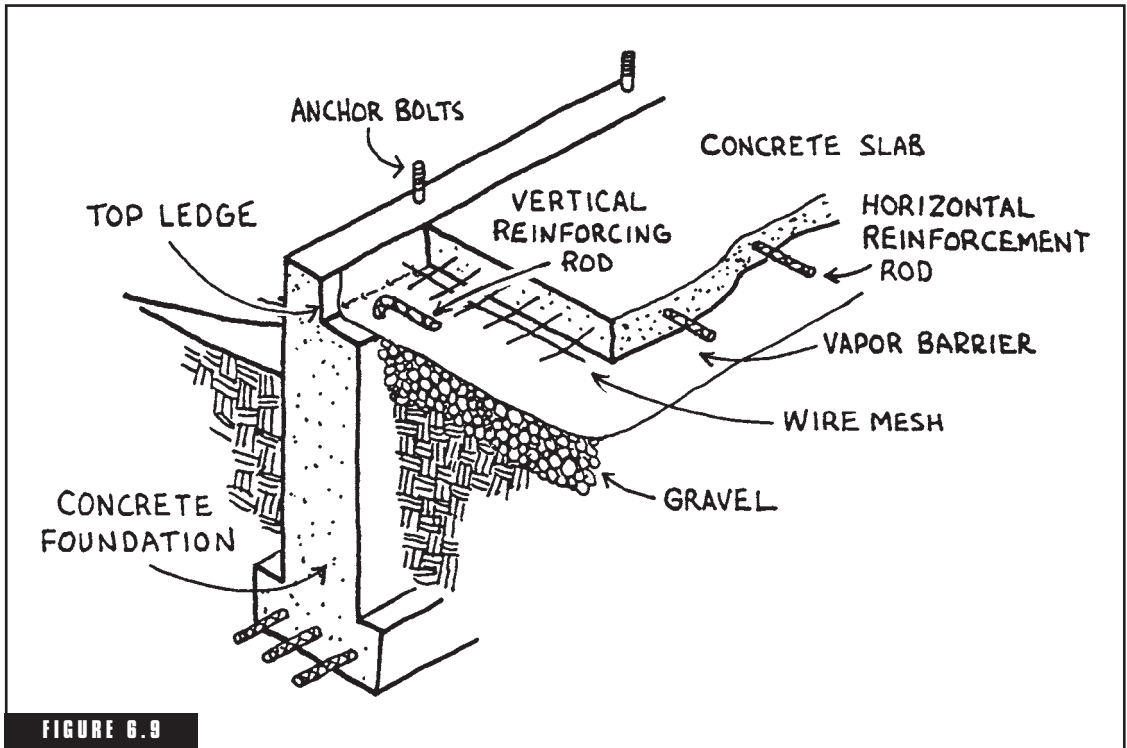

FIGURE 6.9
9. In an application where a foundation is required to hold up a concrete slab (with the interior filled with bank gravel to support the slab) then the top block—if it's a concrete block foundation—or the top ledge—if it's a poured foundation—should be a header or shoe block form in which a portion of the block/concrete has been cut/left out to provide a base for the concrete slab to be fastened to or supported on (Fig. 6.9). Vertical reinforcement rods should also come up from the foundation walls and be bent into the slab. This will help hold the walls to the floor slab. More about this type of construction can be found in the crawl space/basement section of this chapter.